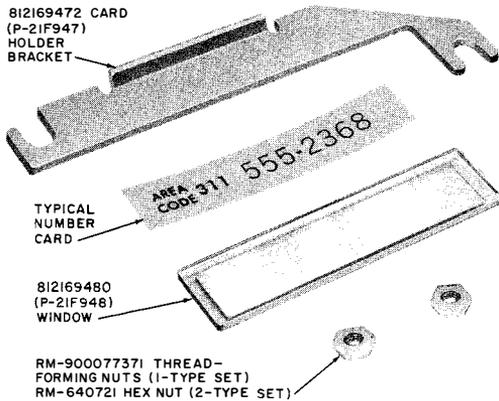

Fig. 27—Number Card and Associated Hardware for TOUCH-TONE Set
3.41 A card holder bracket, window, and two nuts (Fig. 27) are packaged separately and shipped from the factory in the cash compartment.